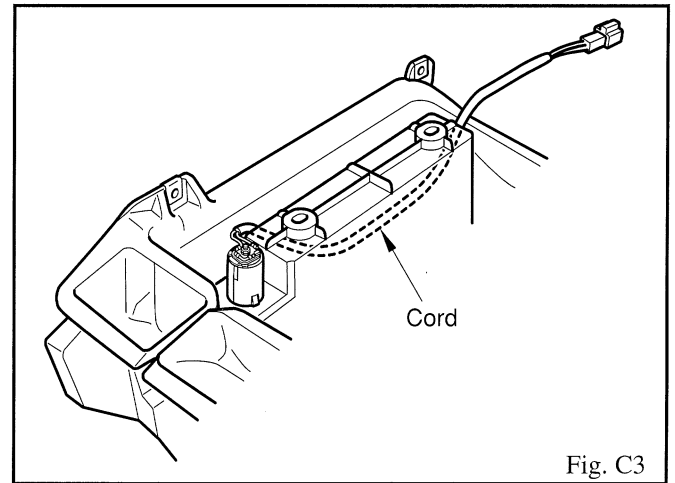

Fig. C3
- iii. Insert the accessory power code between the CD changer box and the heater duct. (Fig. C3)